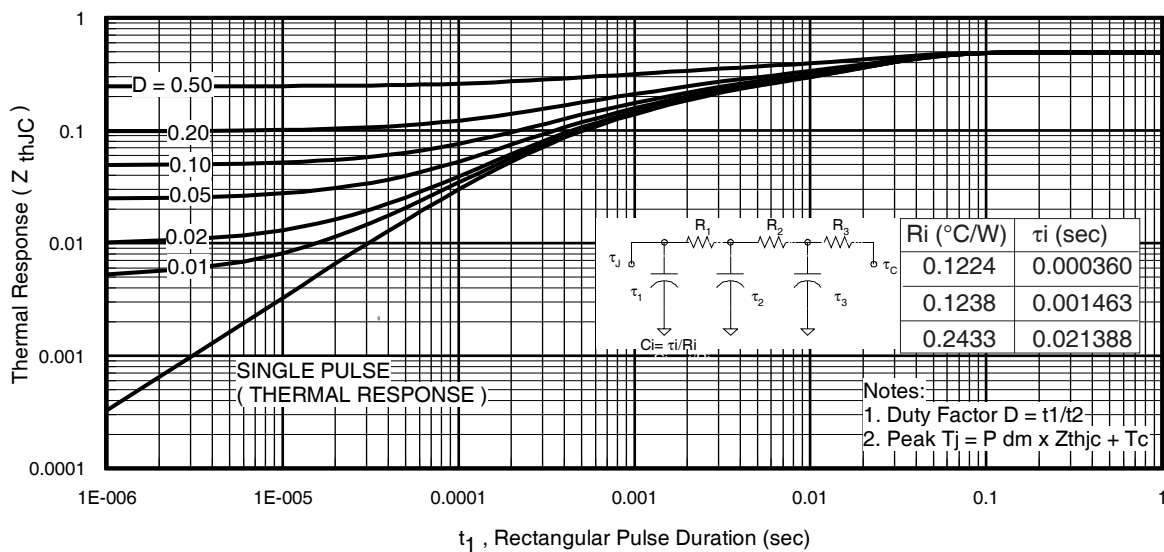

Fig 11. Maximum Effective Transient Thermal Impedance, Junction-to-Case
- ① Repetitive rating; pulse width limited by max. junction temperature. (See fig. 11).
- ② Limited by T_{Jmax} ; starting $T_J = 25^\circ\text{C}$, $L = 0.13\text{mH}$, $R_G = 25\Omega$, $I_{AS} = 90A$, $V_{GS} = 10V$.
$Z_{thJC}(D, t_{av})$ = Transient thermal resistance, see figure 11)